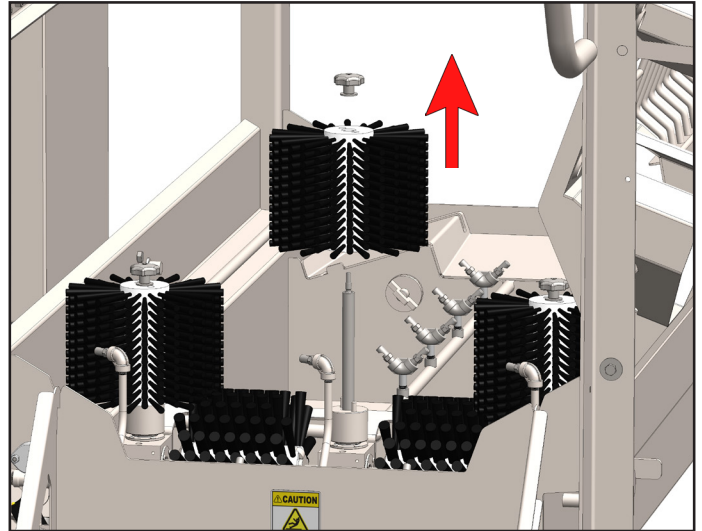

Fig. 11.1: Removing vertical brushes
2. Remove the three vertical brushes by unscrewing the stainless knobs at the top of each brush and lifting them up and off of their shafts [Figure 11.1]